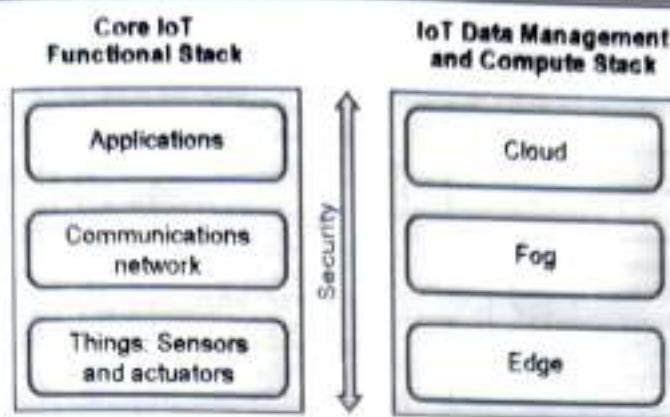

Fig. 2.4.1 : Simplified IoT Architecture
- This framework is presented as two parallel stacks shown in Fig. 2.4.1.